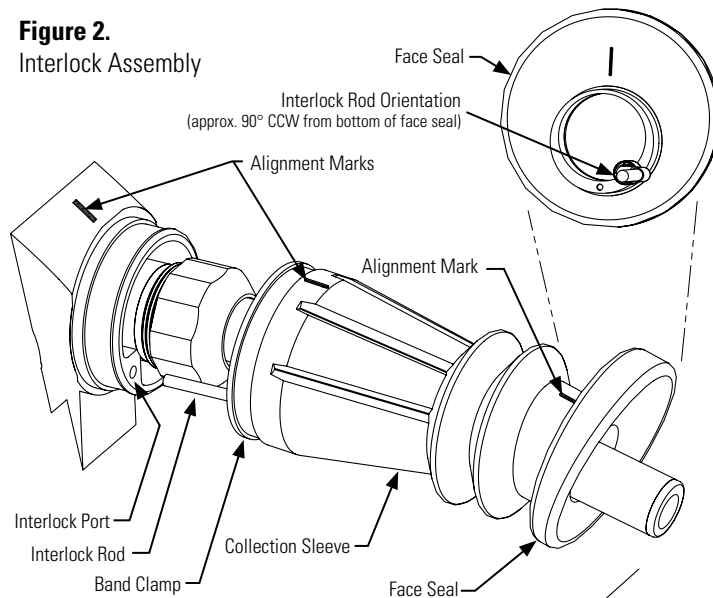

FIGURE 3.
2. Loosen spout nut with smooth-jaw wrench. (See Figure 3)
NOZZLE SPOUT ASSEMBLY (NSA) REPLACEMENT (See Figure 3)
- Apply a dab of Loctite® 565 (or equivalent thread sealant) to the male thread of the nozzle casting. Be careful not to apply the Loctite® so that it would enter into the casting notch. (See Figure 3)